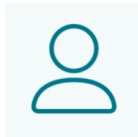

Figure 120. User Menu
1. Open the main menu by clicking the top left icon. See **Figure 120**.